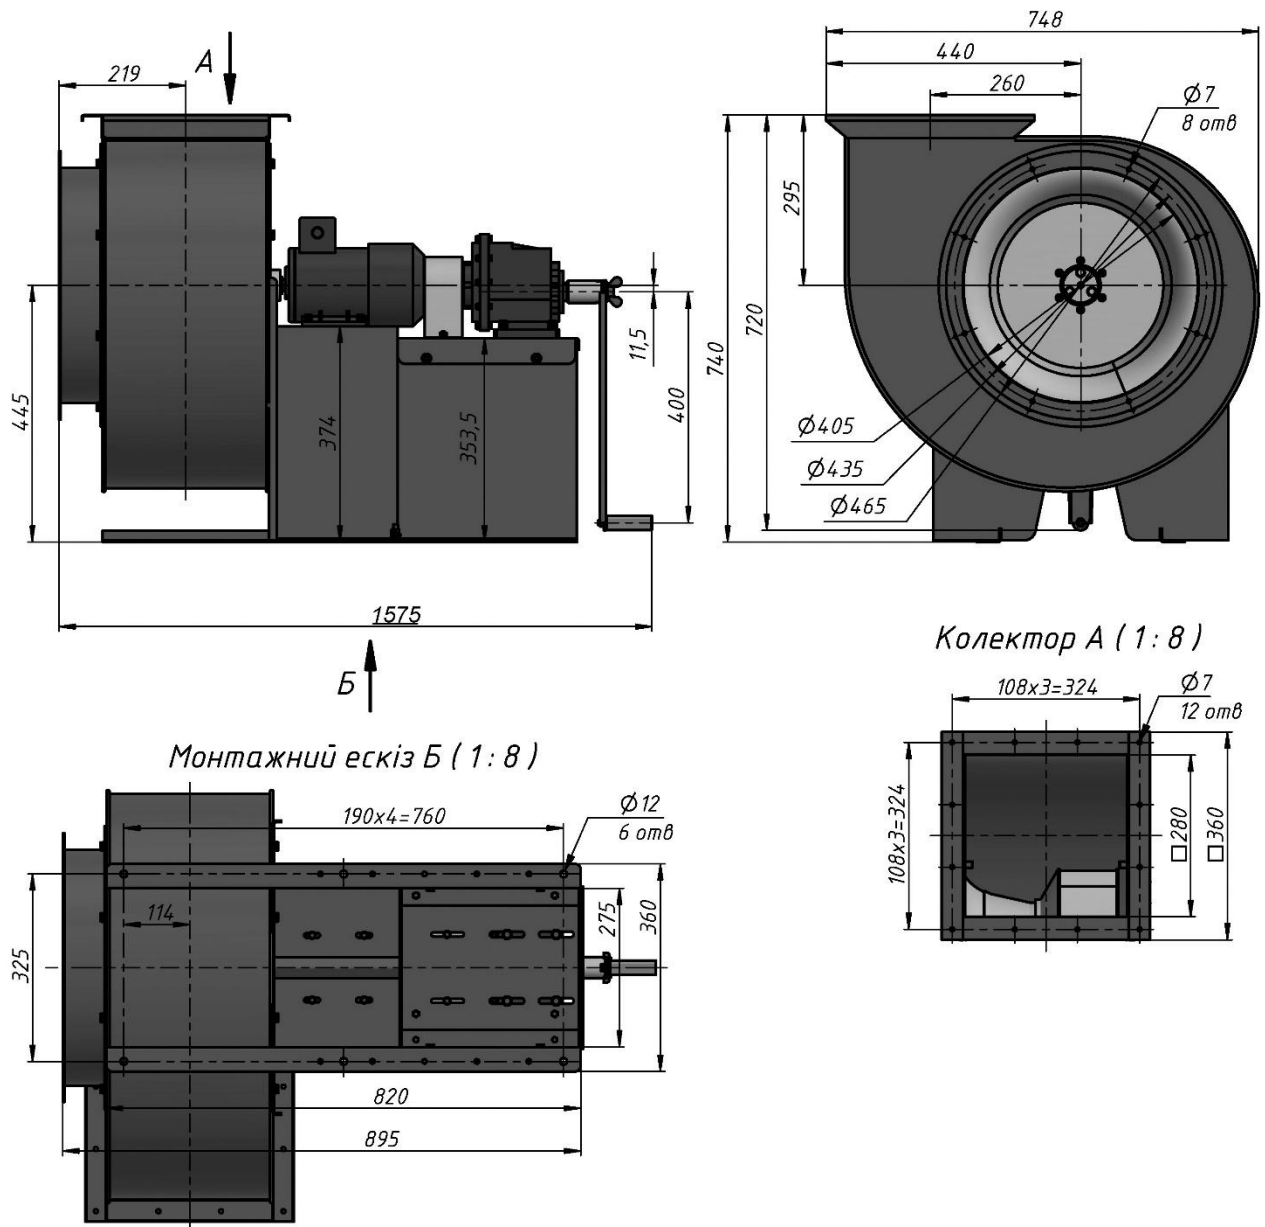

Fig. 2 Overall dimensions of ERV-72-3
1.3. The main dimensions are indicated in Figure 2